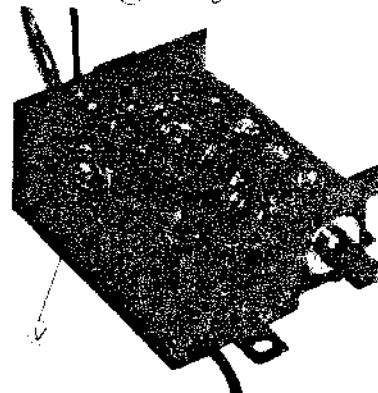

Fig. 2-19
5. Unsolder the braided wire at the rf transformer case marked (V) in Fig. 2-19.